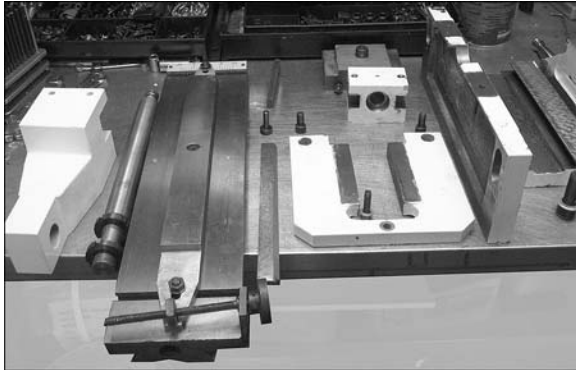

Figure 1
2. Disassemble taper attachment (Figure 1) and thoroughly clean all parts with a solvent, such as kerosene. (Do not use gasoline, acetone, or similar products which can damage paint finish.)